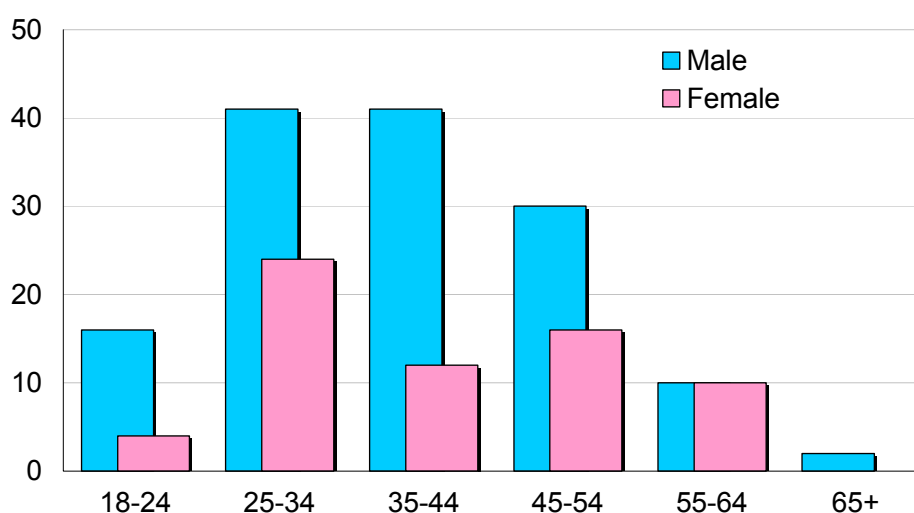

Figure 1: Age and gender of volunteer crew
11. To obtain participants, a call for volunteers was issued by e-mail and in the NPL in-house newsletter. A small payment offered as an incentive for participation (and adherence to the trial “rules”). All those responding were invited to participate, though some withdrew when they could not attend an appointment for enrolment. A limited further call was issued to some staff of the other laboratories on site (NWML and LGC) to achieve slightly over 200 participants. The volunteer crew were thus self-selecting, consisting mostly of staff working on the NPL site. The age and gender profile is shown in Figure 1. This approximates that of the workforce on site.